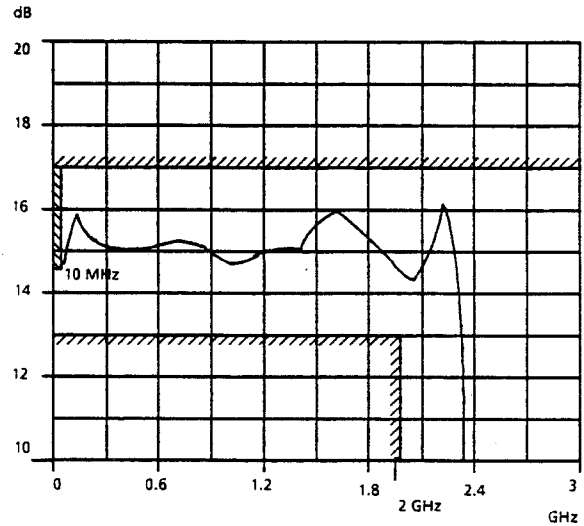

Fig. 5-4  $|S_{21}|$  Typical curve and tolerance field
- Check  $|S_{21}|$  and  $|S_{11}|$  according to Figs. 5-4 and 5-5.